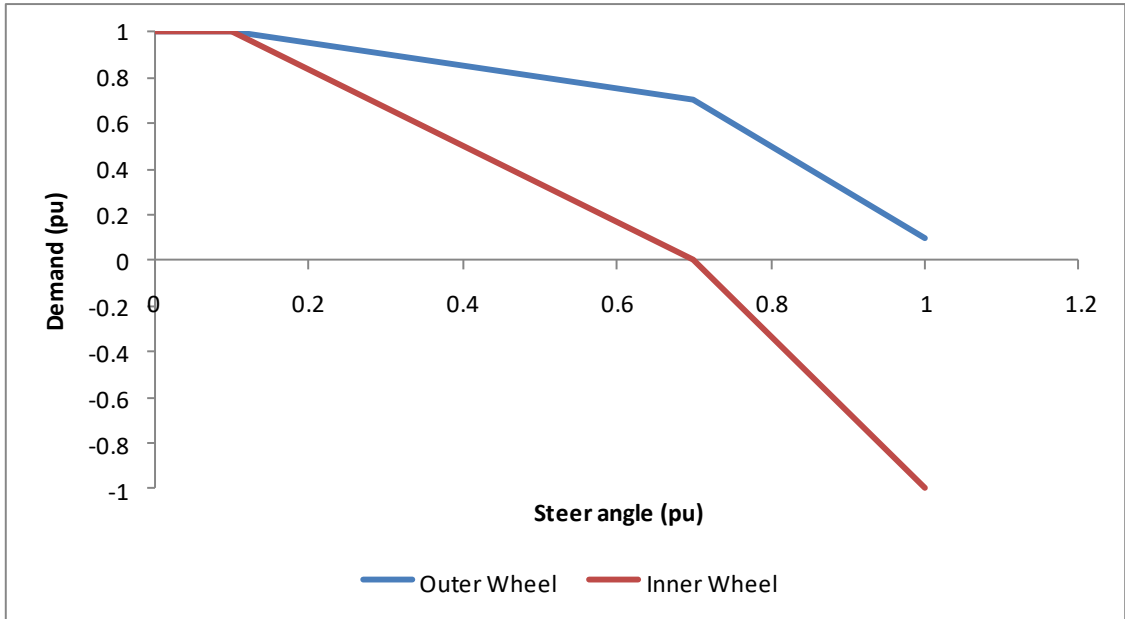

Figure 39 – Graph of speed vs. steering angle
- Setup the steering map. This map defines the relationship between the inner and outer wheel speeds and the steering angle. Each map has 4 user definable points as shown in Figure 39.